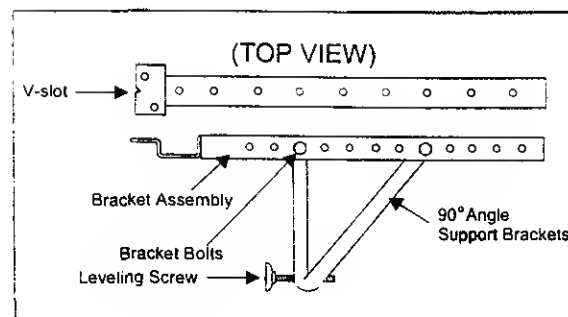

Fig 13
A. Attach the **bracket assembly** to **90° angle support brackets** (Fig 13) using (2) **1 1/2"** bolts.